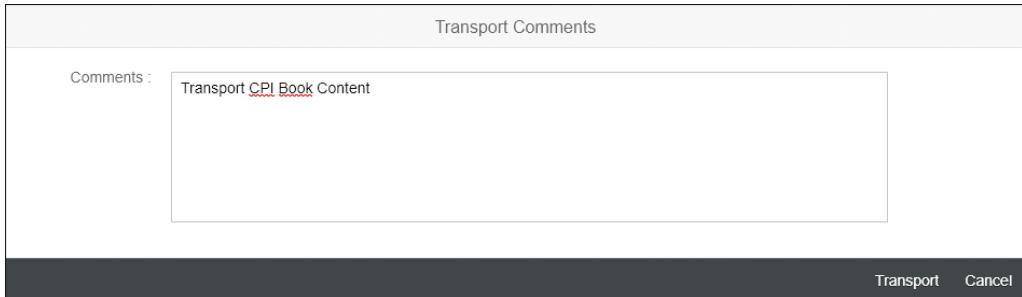

Figure 6.84 Transport Comments Dialog in Web UI
- Enter a transport comment, and choose **Transport** (Figure 6.84).